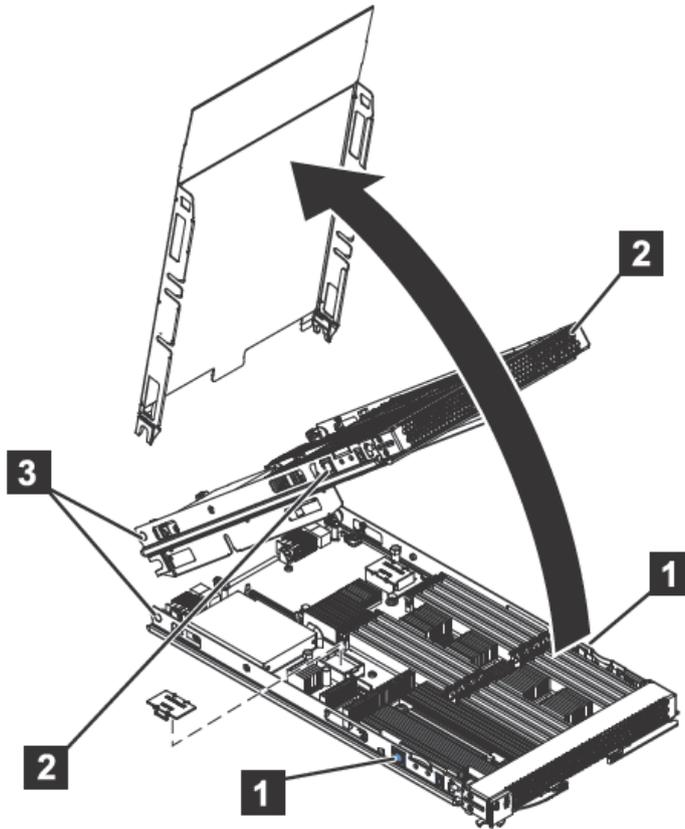

Figure 3-2. Removing the cover
4. Press the blade-cover release (as shown by **1** for the base unit and by **2** for the expansion unit in Figure 3-2) on each side of the blade server, rotate the cover on the cover pins (**3**) and lift the cover open.